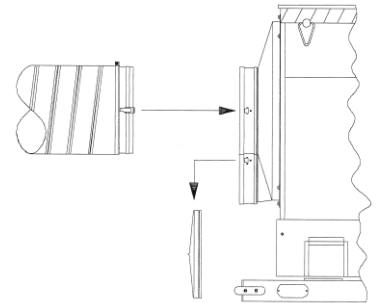

FIGURE 6
1. Place air duct in aircraft and ensure that the opening is unobstructed. Remove yellow output air duct from the storage compartment located under the unit. Remove yellow dust caps from the input and output duct openings located on the back of the air conditioner and place in the storage compartments. Attach yellow output air duct to the air conditioner via the duct openings located on the back of the air conditioner. **See Figure 6.** Place other end of yellow duct into the aircraft.